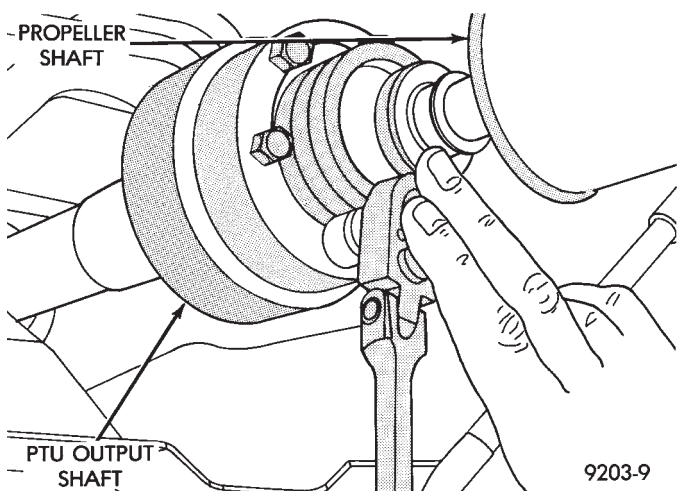

Fig. 2 Propeller Shaft Bolts (Front)
- (3) Remove propeller shaft front mounting bolts and remove propeller shaft assembly (Fig. 2)